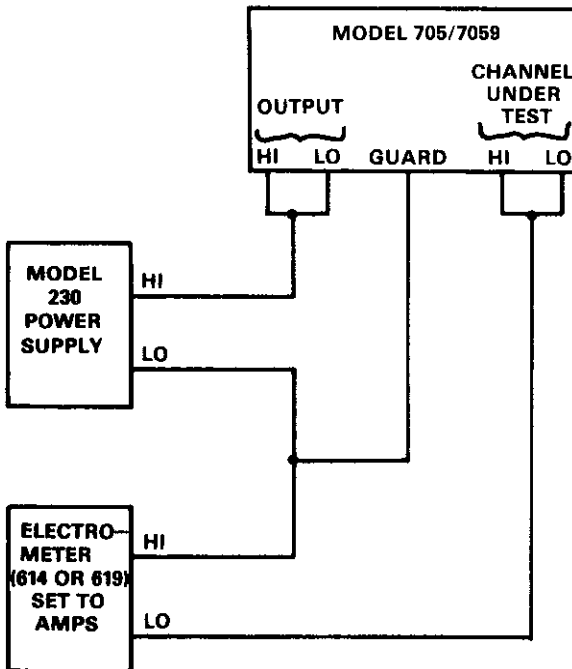

Figure 6. Channel Isolation Test Set Up
- A. This test measures the leakage resistance between two channels on the board. One channel is to be open and the other closed. Set up the test circuit shown in Figure 6.